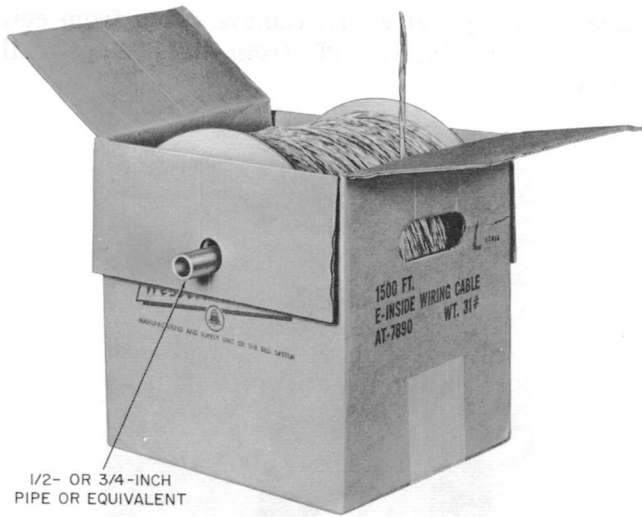

Fig. 4 — Carton Used as Reel Support
3.01 To dispense E wire from a small reel, open top of carton and fold sides down to match holes in side of carton; then insert pipe or equivalent implement through holes in carton and hole in reel, using the carton as reel support (Fig. 4).